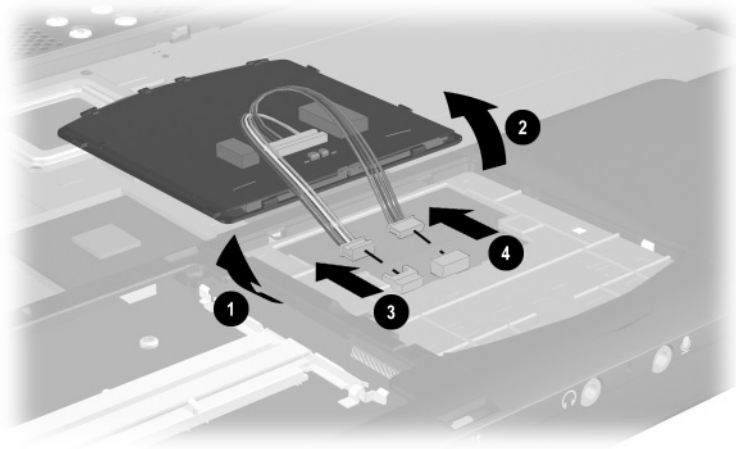

Figure 5-15. Removing the TouchPad
4. Lift up on the left side of the TouchPad ❶ until it disengages from the top cover (Figure 5-15).
5. Swing the TouchPad up and back ❷ and rest it on the top cover.
6. Disconnect the TouchPad cables ❸ and ❹ from the system board.